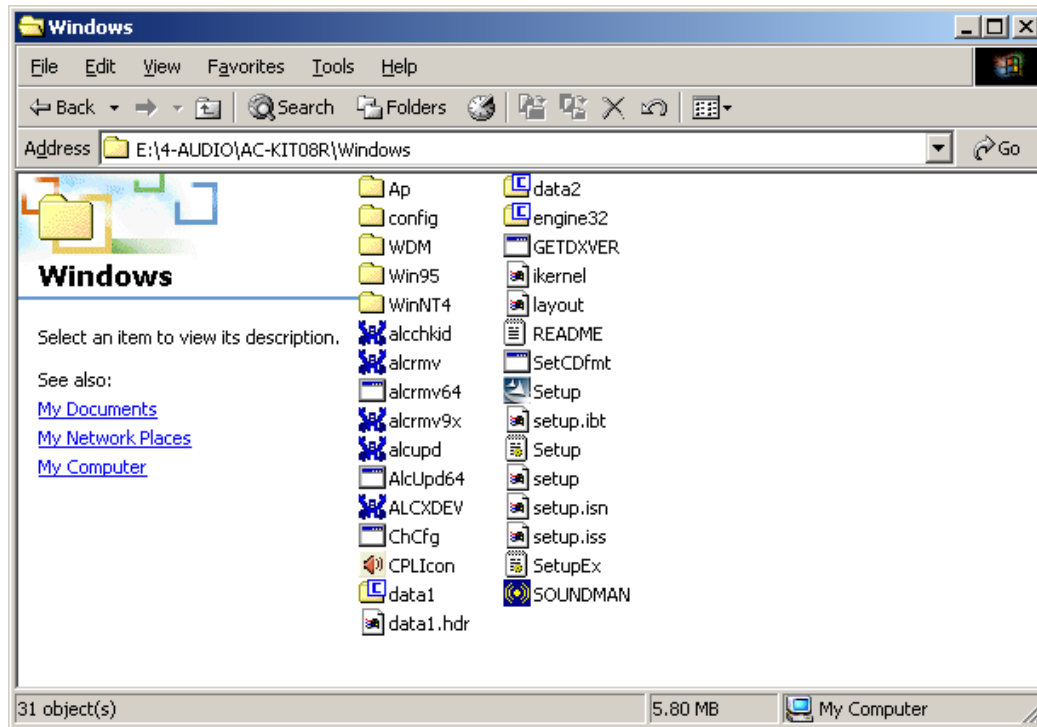

Figure 7-23: CD 4-AUDIO\AC-KIT08R\Windows Folder
- Step 2:** From the main driver menu, navigate to **X:\4-AUDIO\AC-KIT08R\Windows** (or other appropriate OS). **X:** represents the system CD drive. A new window appears showing the folder contents (**Figure 7-23**).